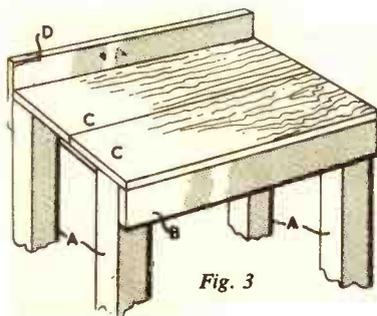

Fig. 3
The top, pieces (C), should now be fixed with countersunk screws. Each piece measures 1 in. by 9 ins. by 31 ins. Fig. 3 shows pieces (C) in position.